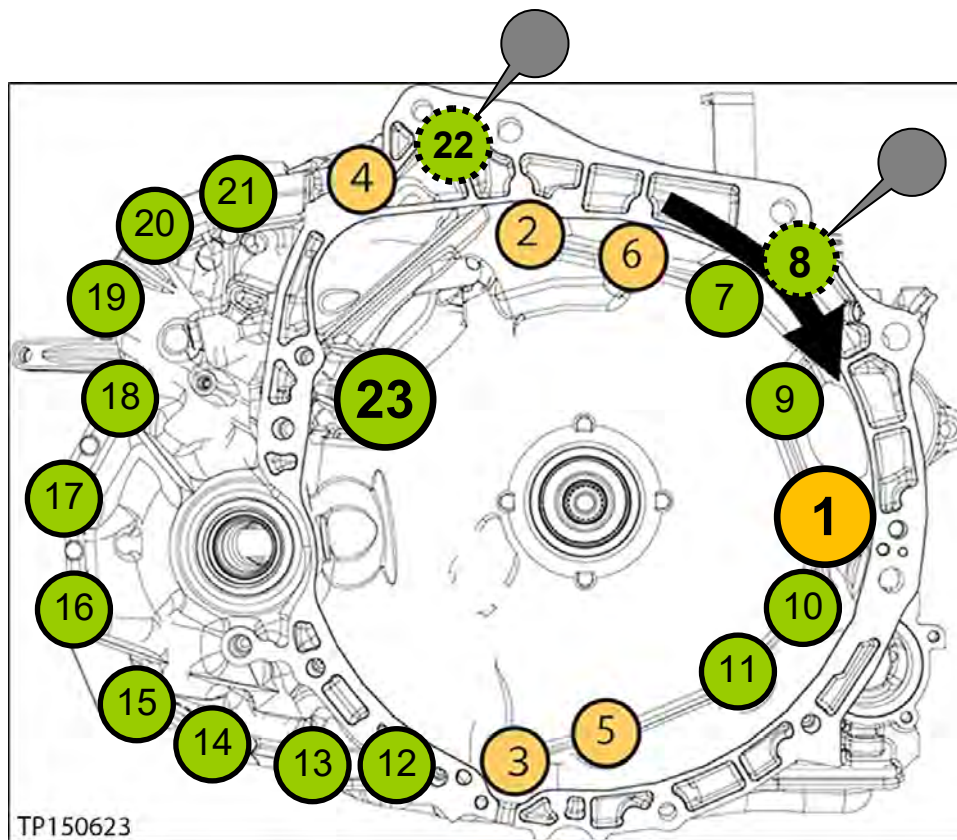

Figure 87
- a. Torque the first six (6) bolts with symbol  in numbered sequence (see Figure 87).
- b. Torque the remaining bolts with symbol  in numbered sequence (see Figure 87).
**IMPORTANT:** Make sure to torque the bolts in the sequence shown in Figure 87 ONLY.